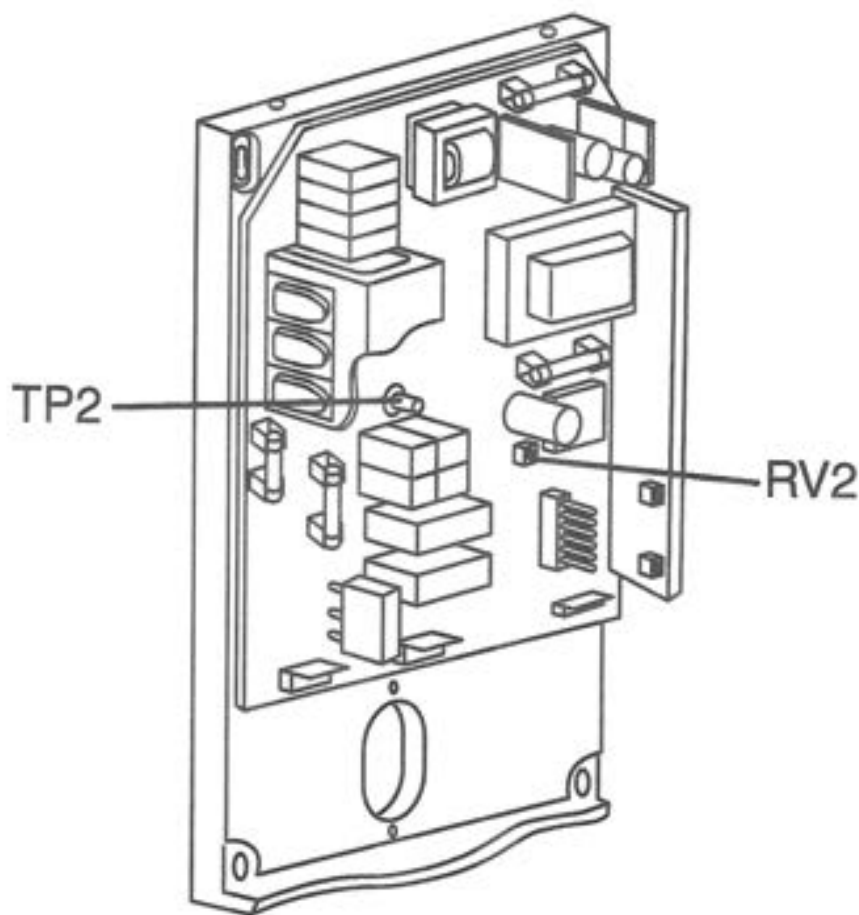

FIGURE 2. TP2 and RV2 on the Power Generating PCB
3. Set the range of digital multimeter at 200Vac. Open the front panel of the control box and place one lead of multimeter to terminal #3 (blue wire) of terminal block in the control box and the other lead on "TP2", a wire ring test terminal in the center about 1/3 of the way up the power generating PCB. (Refer to FIGURE 2.)